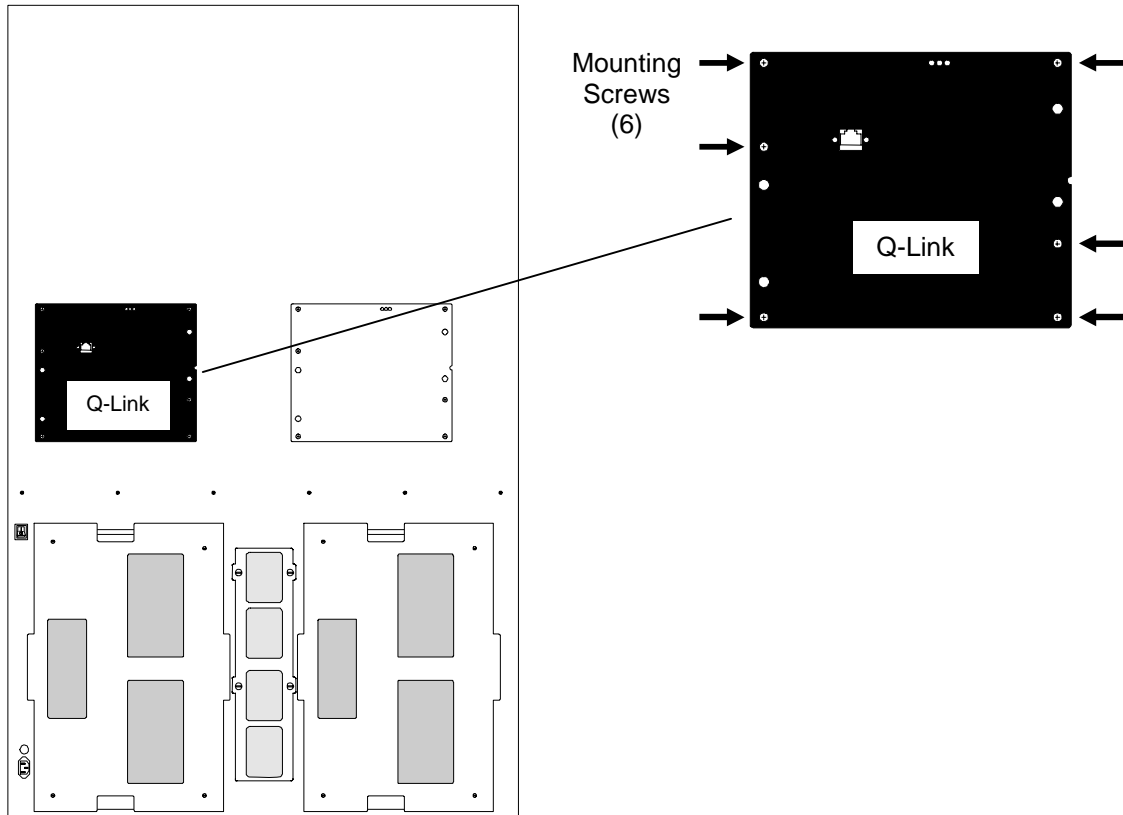

Figure 7-78 Q-Link on Rear of TLS (Dual Bay Model Shown)
2. Use a number 2 Phillips screwdriver to remove all six Q-Link panels mounting screws (Figure 7-78), then move the panel backwards to access the cables.
4. Using a Phillips screwdriver, secure Q-Link to the rear of the TLS using the six screws removed earlier. Refer to Figure 7-78.